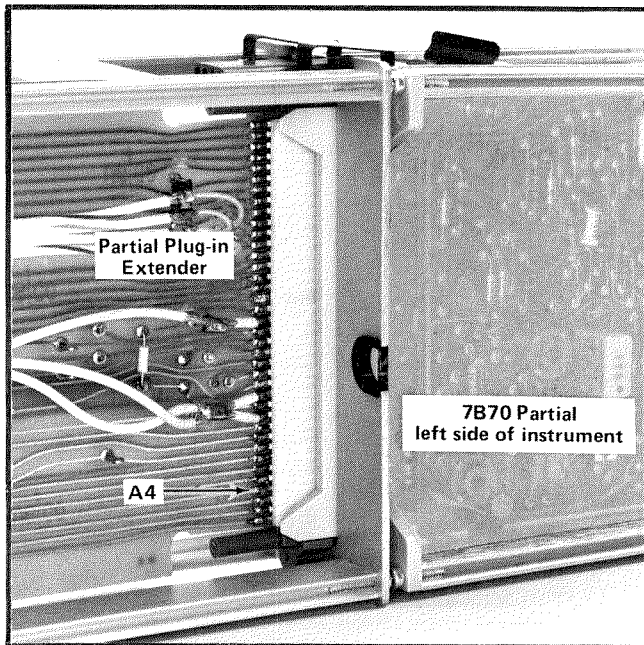

Fig. 5-3. Location of interface connector A4.
b. Connect a probe from the 7A16A Input to interface connector A4 (plug-in connector at the rear of the 7B70). See Fig. 5-3.